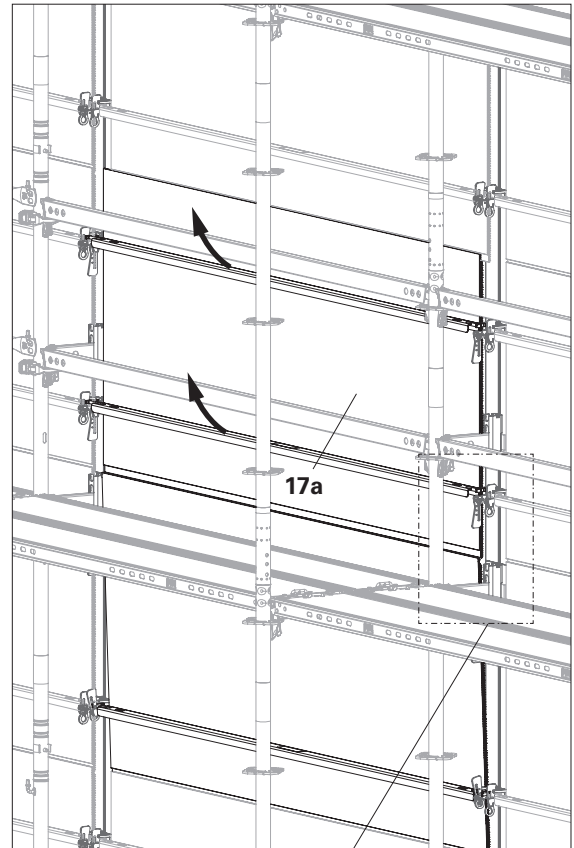
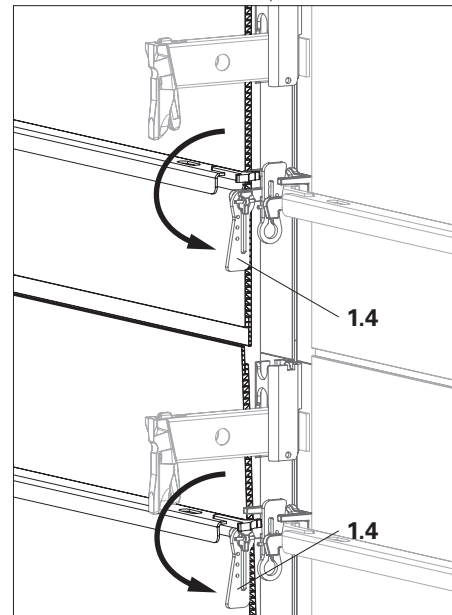

Fig. C8.02
Fig. C8.02b
4. Pull the panel to be removed and lift it upwards. (Fig. C8.02 - Fig. C8.02b)